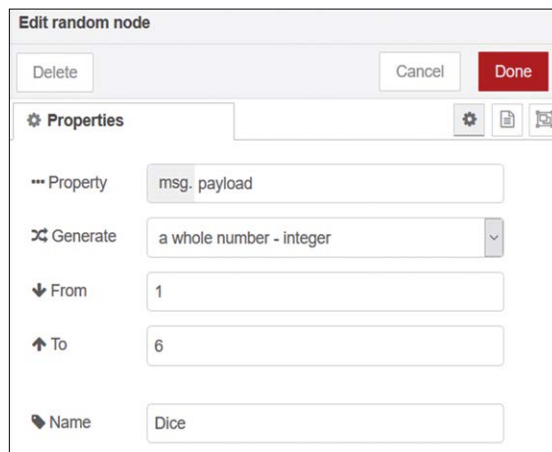

Figure 4.23 Generate random numbers between 1 and 6
- Create a **random** node and name it as Dice. Double click to edit it and set to generate whole integer numbers between 1 and 6 as shown in Figure 4.23. Click **Done**